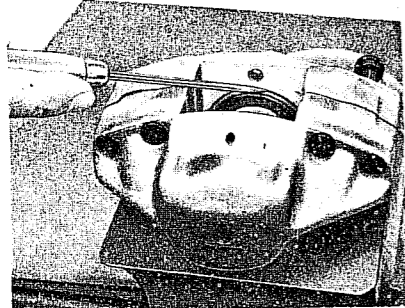

Fig. K.39. Removing the dust cover spring ring.
2. Hold the calliper in a vice with soft jaws and lever out the seal spring ring (Fig. K 39).